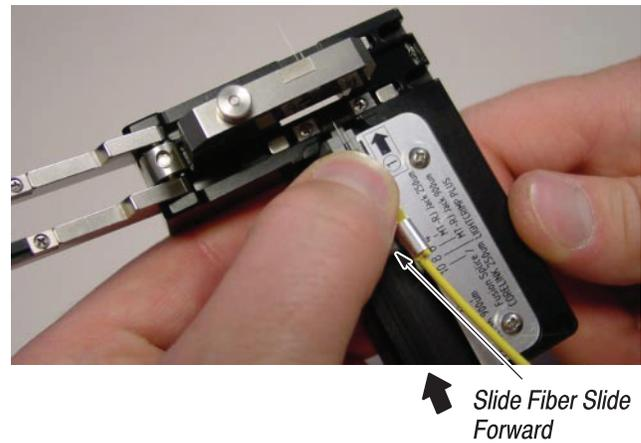

**Figure 3: Cleaving**
**B. Cleaving** (Figure 3)
2. Place the stripped fiber into the slot so that the end of the buffer is at the 8-mm marking. See Figure 3, Detail A.
3. While applying pressure on the buffer, carefully slide the fiber slide forward (toward the carriage) until it stops. See Figure 3, Detail B.
4. Gently close the fiber clamp, and slide the carriage forward. DO NOT touch the button while sliding the carriage. See Figure 3, Detail C.
### B. Cleaving (Figure 3)
2. Place the stripped fiber into the slot so that the end of the coating is at the 8-mm marking. See Figure 3, Detail A.
3. While applying pressure on the fiber, carefully slide the fiber slide forward (toward the carriage) until it stops. See Figure 3, Detail B.